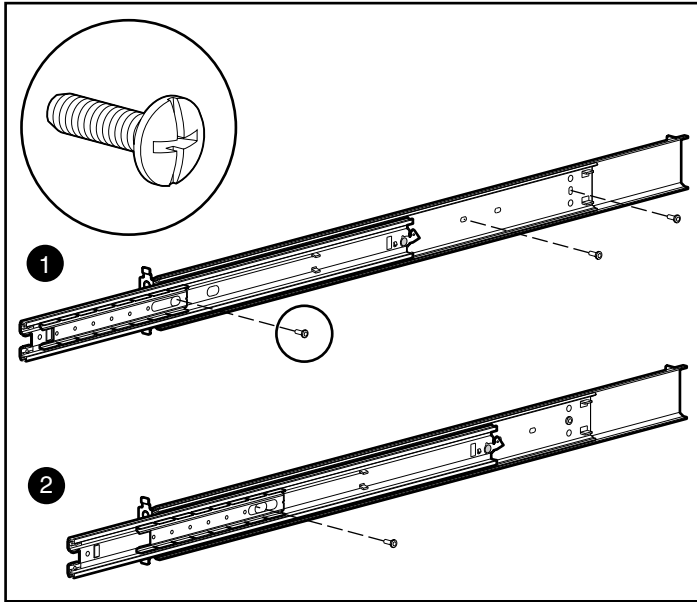

Figure 3-6: Attaching the bracket rail to the mounting bracket
- a. The front of the mounting bracket has alignment tabs on its flange. See Figure 3-6.
6. Fasten the bracket rail to the mounting bracket with three 8-32 x 3/8 Phillips screws. (Do not use nuts or washers with the screws.) See ❶ in Figure 3-6.
7. Adjust the inner slide to access the other two screw holes (one at a time) through the slotted opening in the inner slide. Use two more 8-32 x 3/8 Phillips screws to fasten the bracket rail to the mounting bracket. See ❷ in Figure 3-6. Push the rail all the way in to access the fifth hole (not shown) and use an 8-32 x 3/8 Phillips screw to complete this step.
NOTE: The Figure 3-6 shows how to insert the screws into the appropriate holes of the mounting bracket. The screws will line up with the 24-inch markings stamped along one edge of the mounting bracket. These marks identify the mounting holes for the 24 inch slides used in Compaq racks. Twenty-two inch markings are stamped along the other edge.